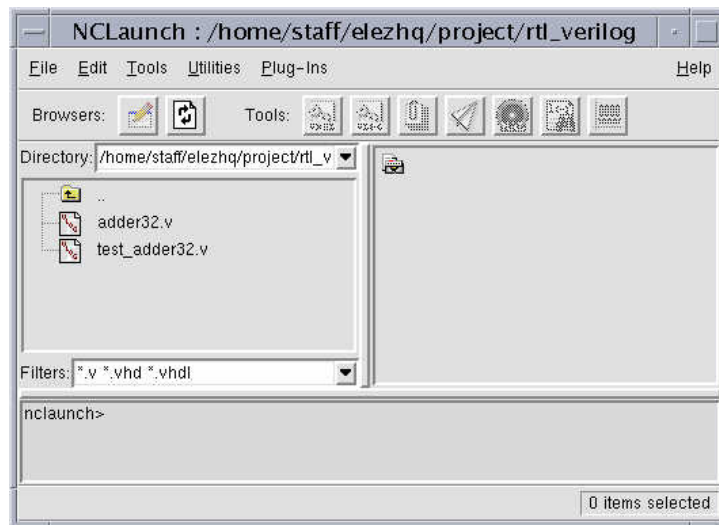
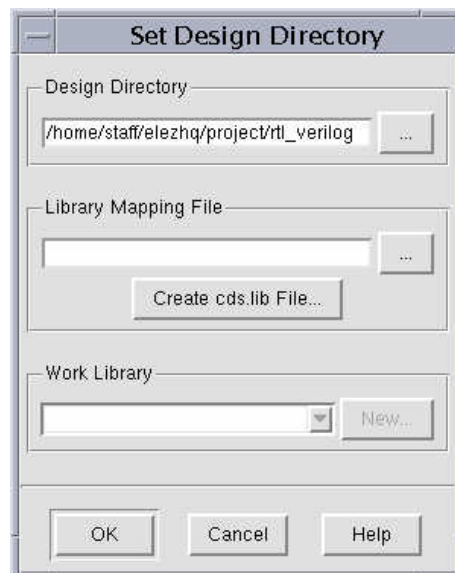

Figure 3-5 NCLaunch main window.
Figure 3-6 Set Design Directory form.
As this is a new design, user must define a `cds.lib` and work library. NCLaunch opens the **Set Design Directory** form as figure 3-6. Do step 3 if the **Set Design Directory** form doesn't appear, otherwise skip step 3.
3. Choose **File→Set Design Directory...** from Nclaunch main window as shown in figure 3-5. The **Set Design Directory** form appears as shown in figure 3-6.